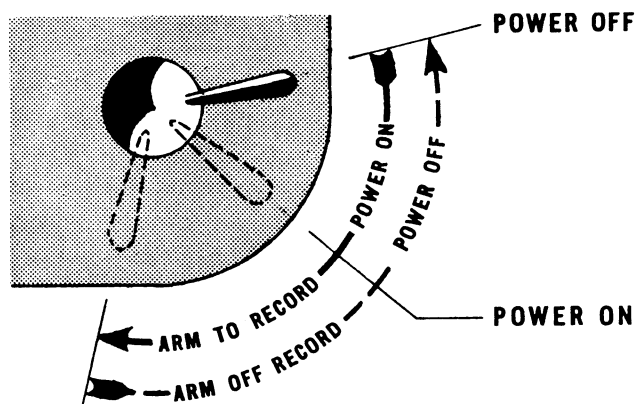

Figure 3 - Power Switch
5. Continue turning the power switch clockwise until the stylus is gently lowered onto the record (see figure 3).